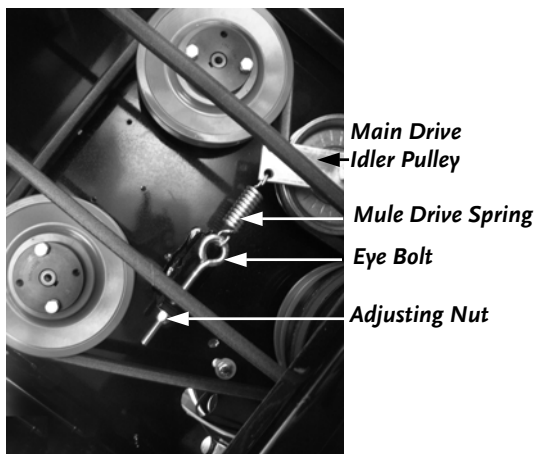

Figure 14a
2. Remove the Adjusting Nut from the Eye Bolt on the Main Drive Idler Pulley (**Figure 14a**).
Turning the Adjusting Nut clockwise on the Eye Bolt will tighten the Mule Drive Spring (**Figure 14a** on page 30). Tighten the Adjusting Nut until the Spring has about a 1/32" to 1/16" gap between the coils of the Spring.